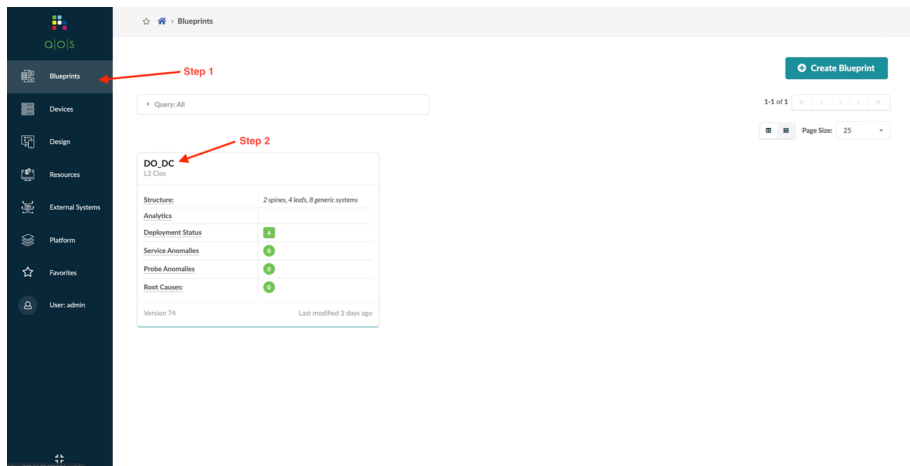

Figure 7.20 Importing a Property Set
Step 1: Go to Blueprint. See Figure 7.20.